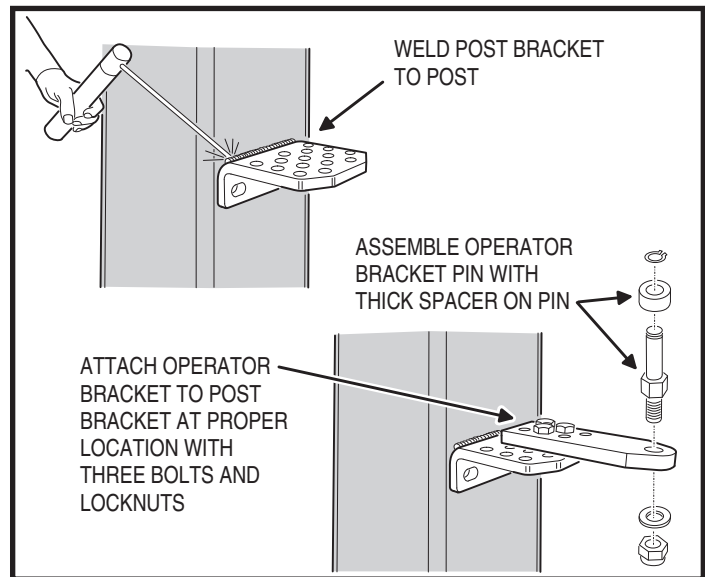

Figure 3. Post Bracket Installation
3. Attach the bolt-on operator bracket to the post bracket at the correct depth and angle using three bolts and locknuts (there are 18 possible positions). Install the operator bracket pin as shown in Figure 3.